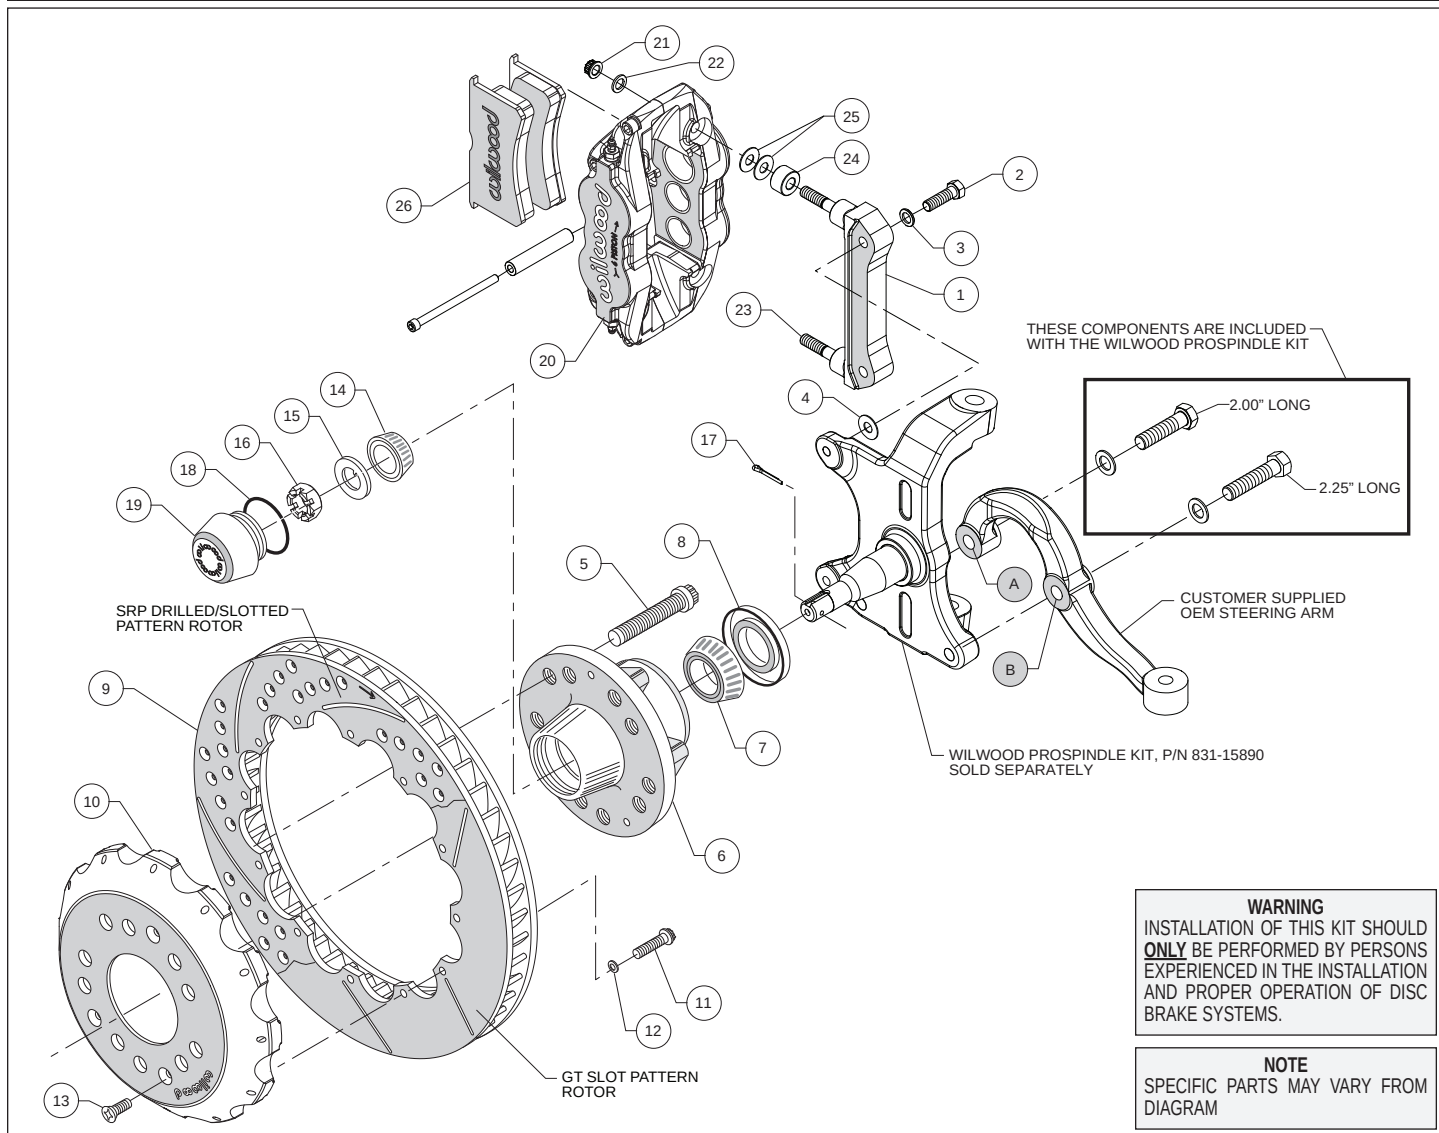
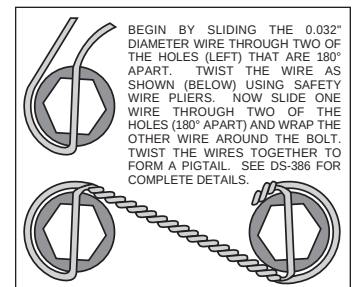

Figure 1. Typical Installation Configuration
Figure 3. Safety Wire Diagram
Assembly Instructions (numbers in parenthesis refer to the parts list on the preceding page, and Figure 1):
•**NOTE:** Wilwood's AFX ProSpindle kit includes bolts and washers to mount the steering arm (customer supplied) to the spindle. The various bolts are identified by length in the following instructions and in Figure 1.
•Orient the steering arm, and identify the hole marked "A" as shown in Figure 1. Attach arm to spindle using 2.00" long bolt and washer (from ProSpindle kit), Figure 1. Finish attaching the steering arm through the hole marked "B", using 2.25" long bolt and washer (from ProSpindle kit), Figure 1. Temporarily tighten the mounting bolts. **NOTE:** The steering arm must fit squarely against the mounting points on the spindle. Inspect for interference from casting irregularities, machining ridges, burrs, etc. Remove bolts one at a time, apply red *Loctite*® 271 to threads, and torque to 77 ft-lb.
•The caliper mount bracket (1) should initially be installed with clean, dry threads on the mounting bolts. Orient the bracket as shown in Figure 1, and install using bolts (2) and washers (3). Initially place one .035" thick shim (4) on each bolt between the bracket and spindle, Figure 1 and Photo 1. Temporarily tighten the mounting bolts. **NOTE:** The bracket must fit squarely against the mounting points on the spindle. Inspect for interference from casting irregularities, machining ridges, burrs, etc. Later, after the caliper alignment has been checked, the mount bolts will be secured using red *Loctite*® 271.
•Install wheel studs (5) into the hub (6), Photo 2. Torque to 77 ft-lb. **NOTE:** There are two five lug patterns in the hub (5 x 4.50 and 5 x 4.75). Ensure the correct hub stud pattern is being used to fit the wheel application.
•Pack the large inner bearing cone (7) with high temperature disc brake bearing grease (available from your local auto parts store) and install into the backside of the hub (6), Photo 3.
•Install the grease seal (8) by pressing into the backside of the hub (6), flush with the end of the hub, Photo 3.
•Pack the small outer bearing cone (14) with high temperature disc brake bearing grease and install into front of hub (6). Slide the hub assembly onto the spindle. Secure using spindle washer (15) and spindle nut (16), Photo 4. Bearing adjustment: Tighten the nut while turning the hub. When there is a slight bind on the bearings, they are seated correctly. Back the nut off about 1/6 to 1/4 of a turn, or sufficiently to allow .001" to .007" end play. **WARNING:** Failure to back off adjusting nut could cause bearing to run hot and be damaged, which could cause the wheel to lock or come off. Install a new cotter pin (17).
•Screw dust cap (19) into hub (6). Friction created by the o-ring (18) on the dust cap keeps it from unscrewing. **NOTE:** The O.D. of the existing OEM spindle washer may be larger than the I.D.
- Orient the rotor (9) and the hat (10) as shown in Figure 1 and Photo 5. Attach rotor to hat using bolts (11) and washers (12). Using an alternating sequence, apply red *Loctite*® 271 to the threads and torque bolts to 155 in-lb. For an added measure of security, the bolts may be safety wired using standard 0.032 inch diameter stainless steel safety wire as shown in Figure 3. Refer to Wilwood's data sheet DS-386 (available at www.wilwood.com/Pdf/DataSheets/ds386.pdf) for complete safety wire installation instructions.
- Slide the hat/rotor assembly (10 and 9) onto the hub (6) taking care to align the small countersunk holes in the hat with the small threaded holes in the hub. **NOTE:** The hat must fit flush against the hub face or excessive rotor run out may result. Install three flat head screws (13) through the small holes in the hat, Photo 6, and torque to 85 in-lb.
- **NOTE:** This kit contains distinct right and left hand calipers that must be mounted in a specific direction, as described below. Lubricate the caliper mounting studs (23) with lightweight oil. Initially place one spacer (24) and two .035" thick shims (25) on each stud between the caliper and the bracket, as shown in Figure 1 and Photo 7. Mount the caliper (20) onto the bracket (1) using lock nuts (21) and washers (22), Figure 1. Ensure that the caliper is mounted so the largest pistons are at the rotor exit end of the caliper, in relation to the direction of rotor rotation. Temporarily tighten the lock nuts and view the rotor through the top opening of the caliper. The rotor should be centered in the caliper, Photo 8. If not, adjust by adding or subtracting shims (4) between the bracket and the spindle. Always use the same amount of shims on each of the two mounting bolts. Once the caliper alignment is correct, remove the bracket mounting bolts (2) one at a time, apply red *Loctite*® 271 to the threads, and torque to 40 ft-lb.
- Remove the caliper center bridge pad retainer bolt, nut, and tube from the caliper. Insert the brake pads (26) into the caliper, with the friction material facing the rotor, as shown in Photo 9. Check that the top of the brake pad is flush with the outside diameter of the rotor, Photo 10. If not, adjust by adding or subtracting shims (25) between the caliper and the bracket. After the caliper pad height is set, torque the caliper lock nuts (21) to 30 ft-lb. Secure the brake pads in place with the center bridge pad retainer tube, bolt, and locknut, Photo 11. The locknut should be snug without play in the bolt or tube. Be cautious not to over tighten.